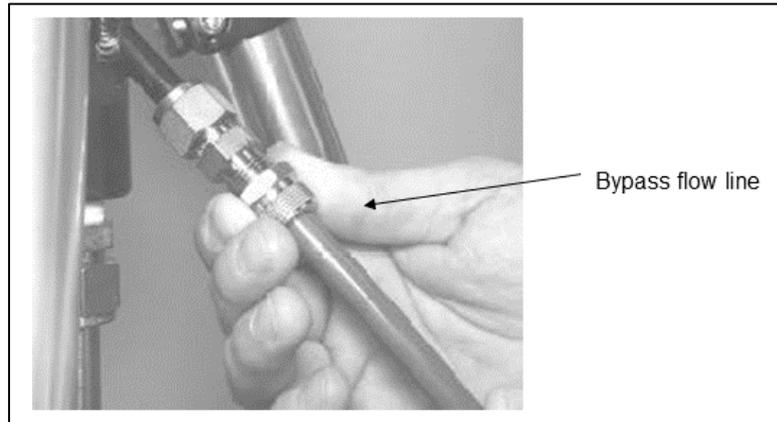

Figure AR-6. TEOM Bypass Flow Splitter Filter
28. Disconnect the green bypass flow line from the bypass extension on the bottom of the flow splitter (Figure AR-6).
- ii. Disconnect the green bypass flow line from the bypass extension on the bottom of the flow splitter (Figure AR-6).